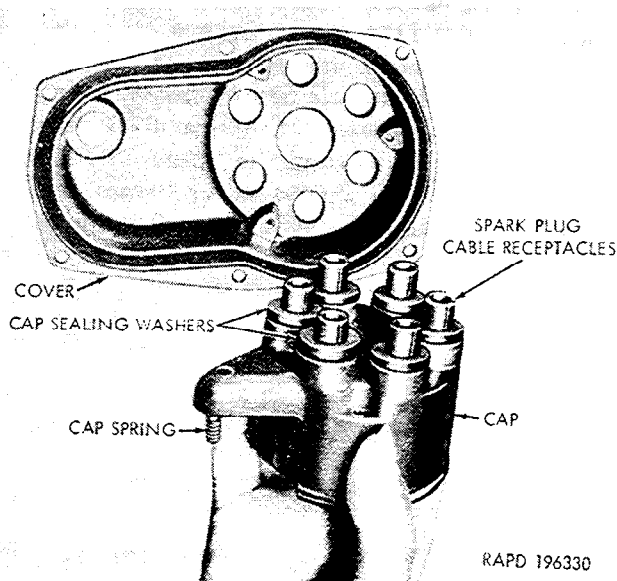

Figure 2-18. Installing distributor cap in cover.
- (1) Remove the distributor (para 2-19 a).
- (2) Remove the six cap cover lockwasher screws (B) and separate the cover (M) from the base (G). Remove the cover O ring packing (H). Remove the cover plug and the plug O ring packing.
- (3) Unscrew the spark plug cable nuts from the cover and remove the cables.
- (4) Remove the three distributor cap lockwasher screws (A) and remove the cap (P) from the cover. Remove the cap spring (N) and the six cap sealing washers (fig. 2-18).
(1) Install the cap spring (N) on the spring retainer.
(2) Place a cap sealing washer on each of the six spark plug cable receptacles (fig. 2-18). Install the cap cover over the distributor cap. Invert the cover and install the three lockwasher screws (A) in the cap (P). Tighten the screws.
(3) Install spark plug cables in distributor cap cover (para 2-16 d (1)).
(4) Position the cover O ring packing (H) on the base (G).
(5) Position the cap cover (M) on the base and install the six cover lockwasher screws (B). Tighten the screws evenly.
(6) Install the cap cover plug O ring packing and plug. Tighten the plug.
(7) Install distributor (para 2-19 b).
(8) Adjust ignition timing (para 2-20).